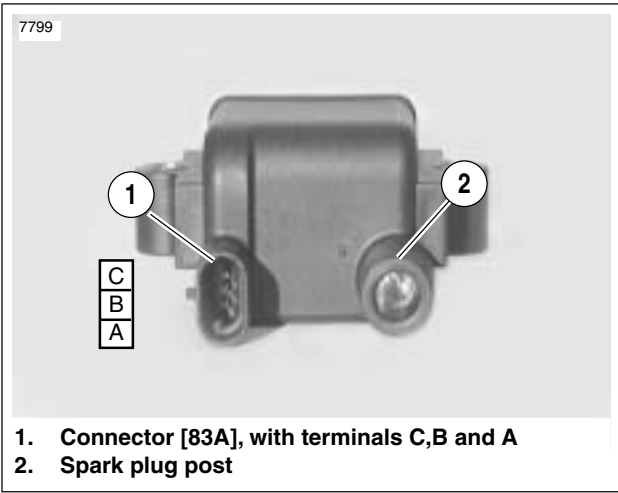

Figure 7-27. Coil Viewed From Bottom
6. See Figure 7-27. Disconnect coil connector [83].